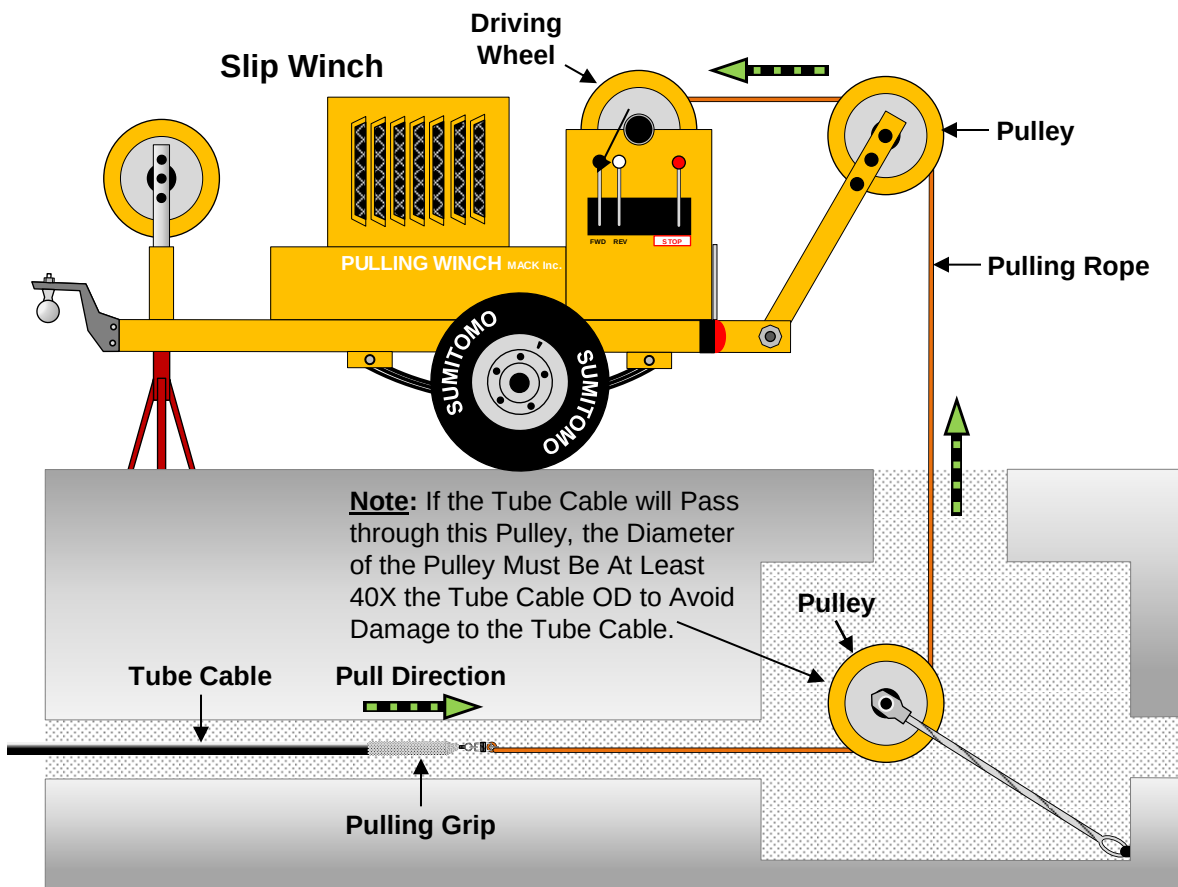

Figure 24
17.2.1 A typical Slip Winch set-up and operation is shown in **Fig. 24**.